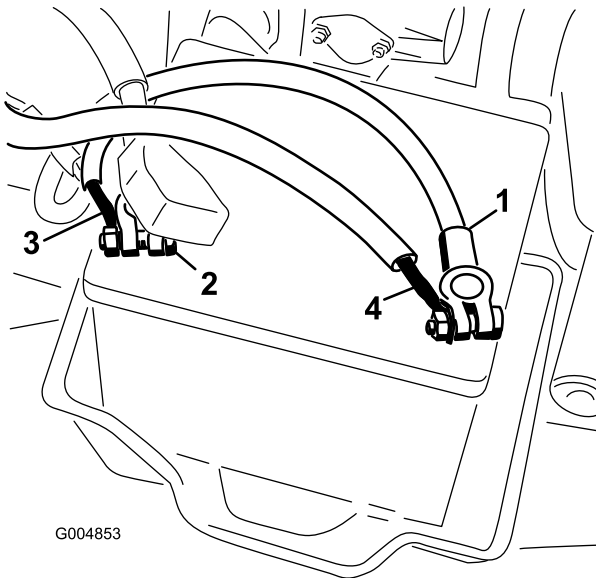

Figure 29
8. Connect the fusible link to the positive battery post (Figure 29).
9. Connect the black wire to the negative battery post (Figure 29).